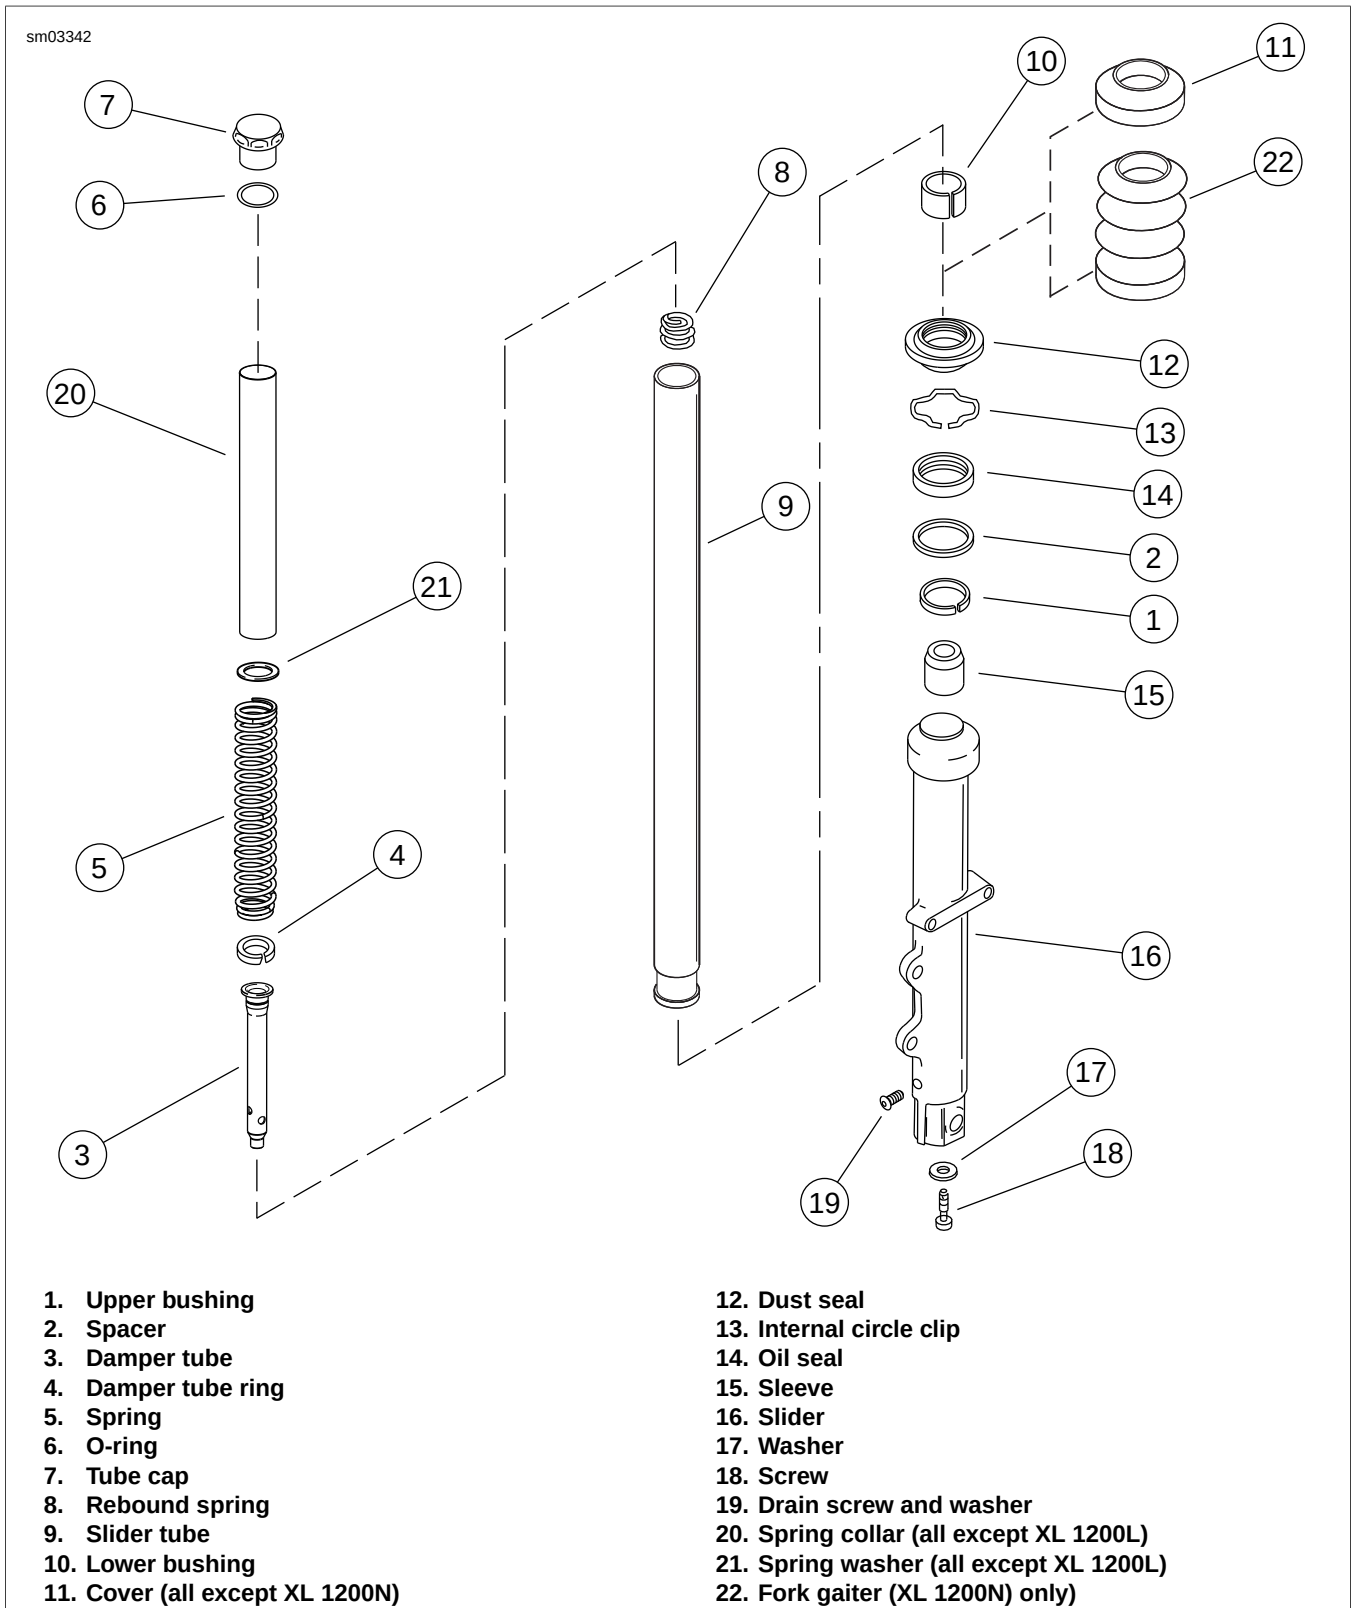
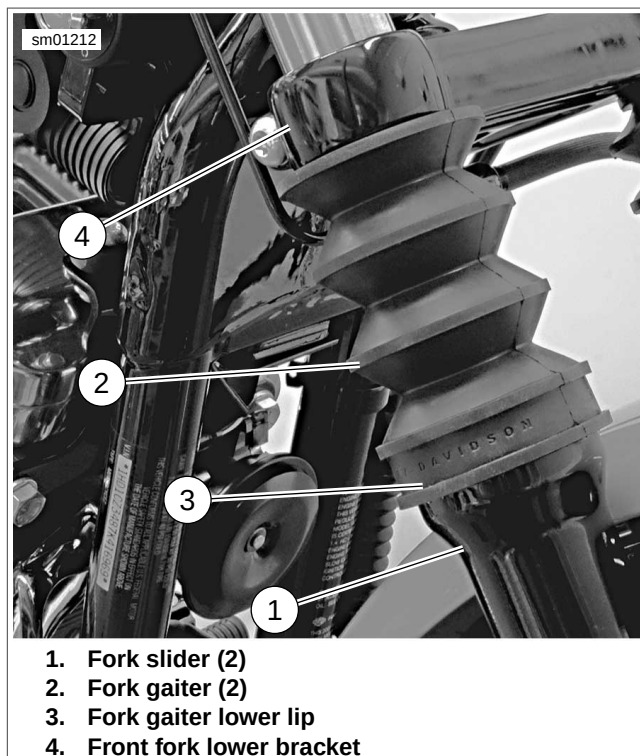

Figure 2-165. Front Slider Tube/Slider Assembly: XL Models
Figure 2-166. Fork Gaiter: XL 1200N Only
1. See Figure 2-165. Remove drain screw and washer (19) from slider (16). Remove tube cap (7) from slider tube (9). Drain fork oil. Remove o-ring (6) from tube cap.
2. Remove spring (5) from slider tube.
3. **All except XL 1200L:** Remove spring collar (20) and spring washer (21) from slider tube.
4. **All except XL 1200N:** Remove cover (11).
See Figure 2-166. The XL 1200N is equipped with fork gaiters (2) instead of metal covers. The lower lip (3) of the fork gaiter fits into the groove at the upper end of the fork slider (1). The upper end of the fork gaiter fits tightly around the slider tube, just below the front fork lower bracket (4).
5. **XL 1200N:** See Figure 2-166. Peel back lower lip (3) of fork gaiter (2) from slider groove and slide fork gaiter up and off end of slider tube.
6. See Figure 2-165. Remove dust seal (12). Compress internal circle clip (13). Remove clip from groove in top of slider bore.
7. Remove screw (18) and washer (17) from bottom of slider.
2. See Figure 2-165. Inspect the o-ring (6) for damage, wear or general deterioration; replace as necessary. Replace all other removed seals.
3. Inspect damper tube ring(s) (4). Replace ring(s) if damaged or excessively worn.
4. Check dust seal (12) where it contacts slider tube (9). Dust seal should provide continuous contact against slider tube and should not show excessive wear. Check slider tube where it is contacted by seal. Tube surface should be shiny, smooth and free of scoring or abrasions.
1. See Figure 2-165. If lower bushing (10) was removed, install **new** lower bushing in groove of slider tube (9). Expand bushing only enough to fit over tube.
2. Install damper tube ring(s) (4) into groove(s) of damper tube (3).
3. Place rebound spring (8) over damper tube (3). Insert damper tube into slider tube.
4. Insert spring (5) into slider tube with the tapered end down. Push damper tube through opening at bottom of slider tube using spring. Place sleeve (15) over end of damper tube.
5. **All except XL 1200L:** Install spring washer (21) and spring collar (20) into slider tube.
6. Install slider tube assembly into slider (16). Install screw (18) with washer (17) at bottom of slider. Move slider tube through its full range of travel within slider several times to verify proper component alignment. Then, applying downward force on spring, final tighten screw to 132-216 **in-lbs** (14.9-24.4 Nm).
7. Place upper bushing (1), spacer (2) (concave side downward), oil seal (14) (lettering side upward) and FORK SEAL AND BUSHING INSTALLATION TOOL (Part No. HD-36583) over slider tube. Install bushing, spacer and seal into slider bore by tapping components downward with the installation tool. Install internal circle clip (13) into groove in top of slider bore.
8. Install dust seal (12) at top of slider.
9. **All except XL 1200N:** Install cover (11).
10. **XL 1200N:** See Figure 2-166. Slide a fork gaiter (2) down each slider tube. Peel back lower lip (3) and slip over end of fork slider (1), fitting lower lip down over groove in upper end of fork slider. Slide upper end of fork gaiter down as far as possible.
11. See Figure 2-165. Install drain screw and washer (19) into lower end of slider.
13. Install slider tube cap (7) with o-ring (6). Screw tube cap all the way into slider tube. Finger-tighten only at this time.
4. **XL 1200N:** See Figure 2-166. Slide upper end of each fork gaiter (2) up until it contacts underside of front fork lower bracket (4).